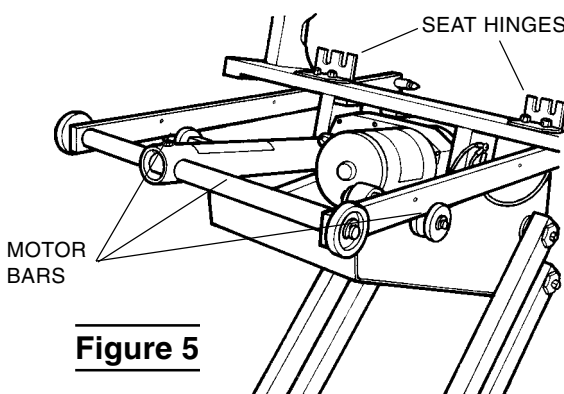

**Figure 5**
**WARNING:** Do not attempt to lift the chair by the motor bars. The motor shaft will be damaged (See Figure 5).
The seat is attached to the two hinges on the main cross member of the seat frame (See Figure 5). Use the following instructions: